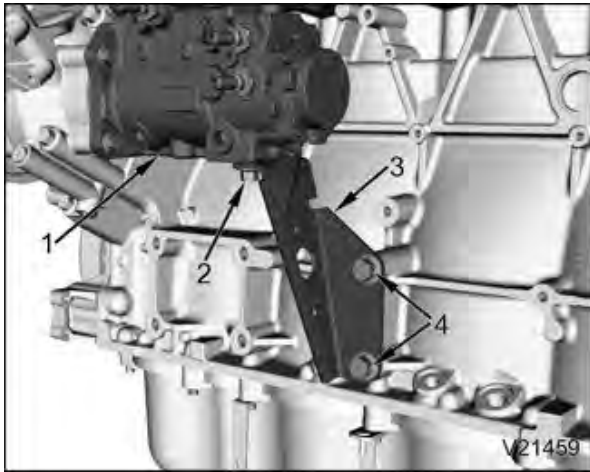

Figure 8. HP Fuel Pump Support Bracket
20. Remove two bracket-to-pump bolts and loosen but do not remove two bracket-to-crankcase bolts at HP fuel pump support bracket (Figure 8).